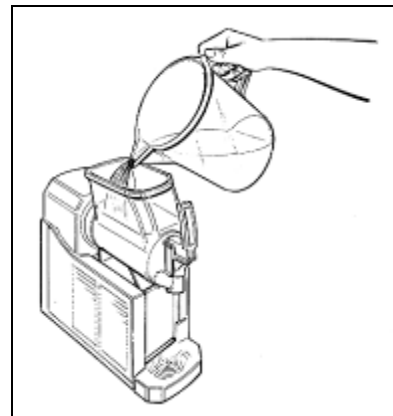

Fig. 2
- **P**our lukewarm water into the bowl (fig.2) and, after re-positioning the cover, make the scraper auger rotating for some minutes (all LED switched off).